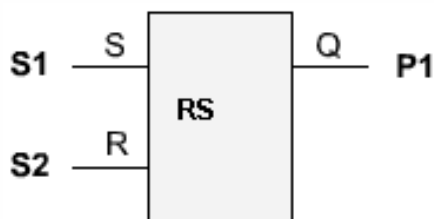
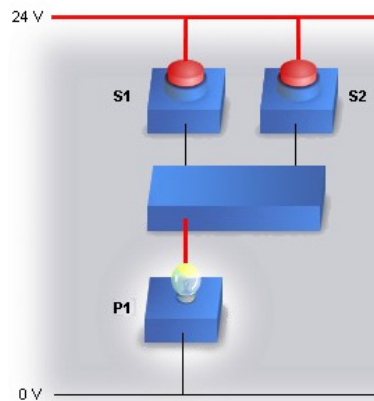

Fig 2.6: Memory function block
Fig 2.7: Memory function SET
B. Memory function: Memory function is used to store a signal. It has SET (S) and RESET (R) inputs as shown in fig 2.6. A high at the set input sets (stores 1) the memory function, and a high at the reset input resets the memory function as shown in fig 2.7.